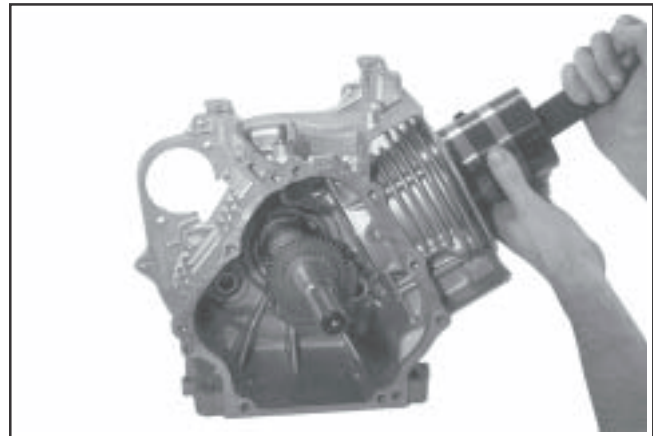

Figure 11-13. Installing Piston Using a Ring Compressor.
- Make sure “V” stamping on piston is facing down toward the base of the engine. Use a hammer handle with a rubber grip and gently tap the piston into the cylinder as shown in Figure 11-13. Be careful that the oil ring rails do not spring free between the bottom of the ring compressor and the top of the cylinder.